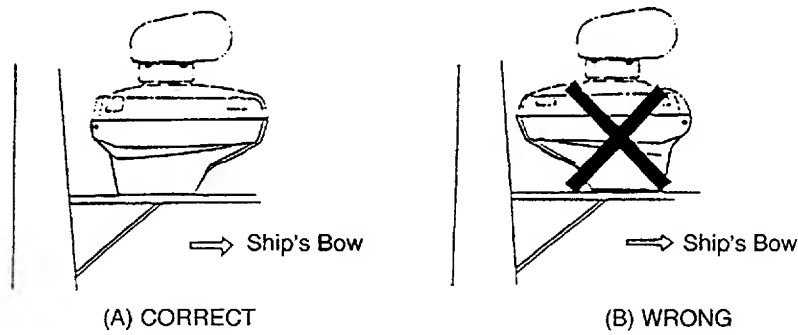

Figure 5-1 Orienting the scanner unit
- 3) Place the scanner housing on the chosen position and orient it as shown in Figure 5-1(A).